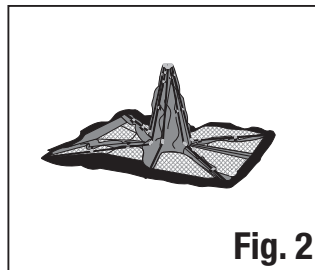

Fig. 2
- Unfold the arms of the tent downward until they lay flat on the ground. (Fig. 2)